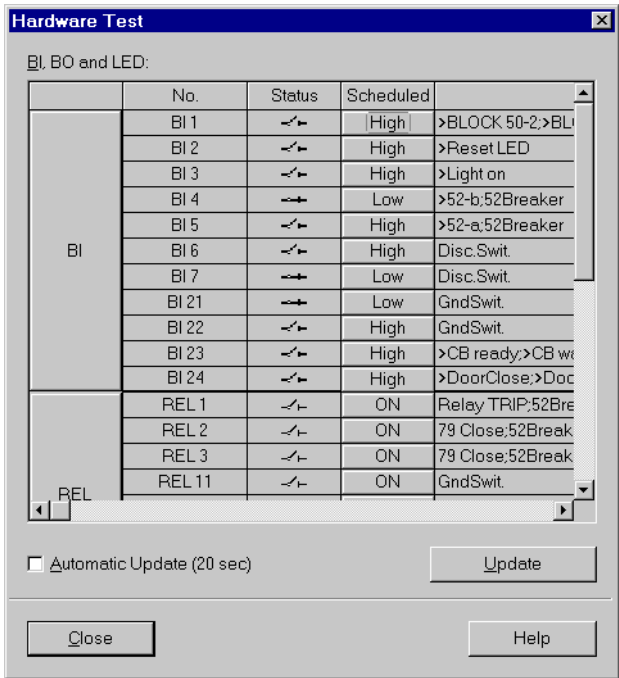

Figure 8-26 Dialogue box for hardware test — example
- ❑ Double-click in the list view on **Hardware Test**. The dialogue box of the same name opens (see Figure 8-26).